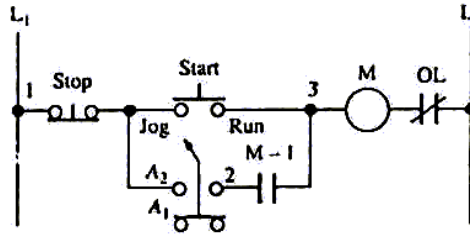

Fig. 35 Start/Stop /Jog control with selector switch.
This kind of control is shown in Fig.35
23. Jogging control (Fig.35)
Jogging (inching) is a momentary-ON control capability with one pushbutton. Jogging is used for a final adjustment of a machine's position. Jogging can be accomplished by the use of a selector switch that disables the seal circuit as shown in Fig.35, for a normal start/stop seal, the selector closes a path from A₂ to 2 causes the start button to be a momentary-ON, or jog, button. The disadvantage of this circuit is that a selector has to be changed to choose between jog and seal-ON.